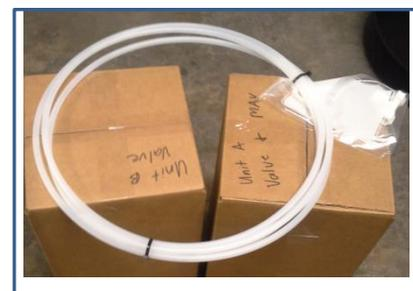

Figure 6: Brine Line Hose, Control valve packaging, Brine Line 'T' (in bag)
- _____ 4) Brine Line 'T' (Figure 6)
- _____ 5) Brine Line Hose (Figure 6)